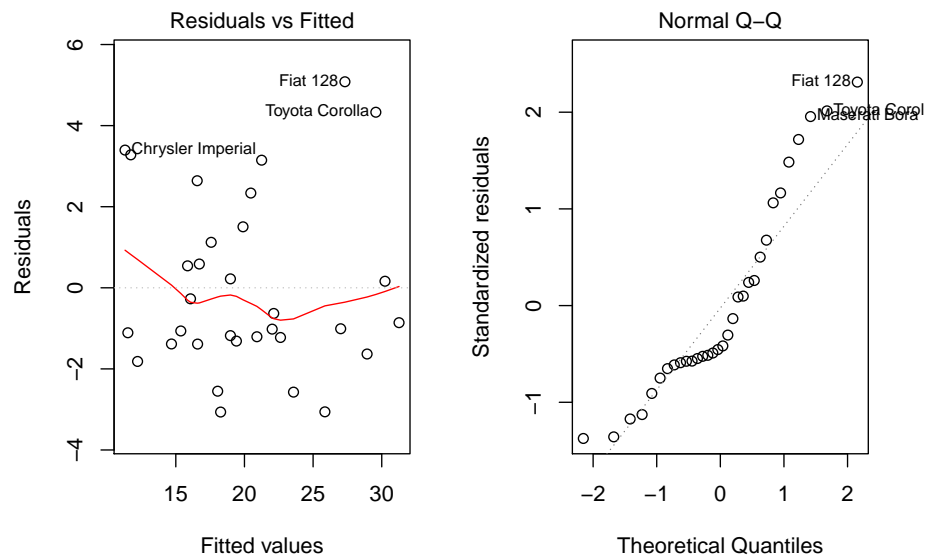

Figure 2: Diagnostic plot 1
We fit the model with `fit <- lm(mpg ~ am * wt + hp, data = mtcars)`; the diagnostic graphs in Figures 2,3 indicate “outliers”, Maserati Bora(31), Chrysler Imperial(17), Toyota Corolla(20), Fiat 128(18) that we decide to remove after inspecting `dfbetas(fit)`, `hatvalues(fit)`.